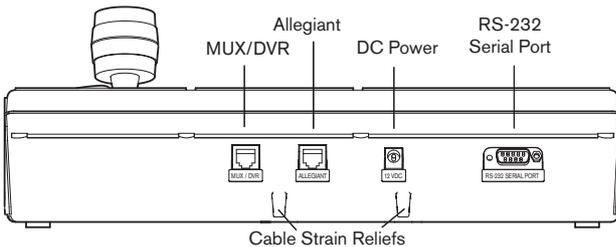

FIGURE 2-2 Back Panel Connections of IntuiKey
1. Refer to FIGURE 2-2 for details on the input/output connections supplied by the IntuiKey Keyboard. Four connectors are located on the IntuiKey rear panel: (2) RJ-11 connectors, (1) female 9-pin sub-D connector, and a DC power jack. The RJ-11 connectors are labeled as Allegiant and MUX/DVR, and the 9-pin sub-D is labeled **RS-232 Serial Port**.